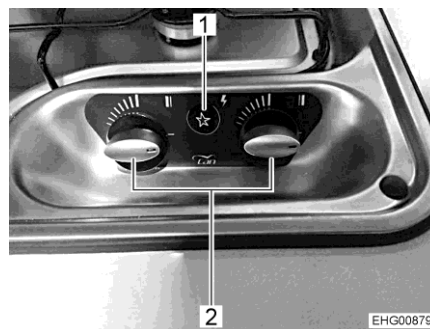

Fig. 143 Operating controls for gas cooker
- Turn the control knob (Fig. 143,2) on the burner you wish to use to the ignition position (large flame).
- Press the push button (Fig. 143,1). Ignition sparks are generated at the burner.